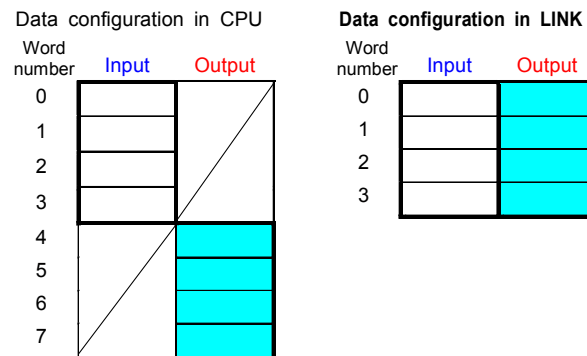

Figure 4.3.5 Data configuration with the operation mode "Mode2"
- 7) In the case of I/O assignment "X4Y4W", output area is compacted in the module, and the link area is assigned the channel number from 0 to 3 shown in Figure 4.3.5. Therefore the module occupies 4 channels from head channel.